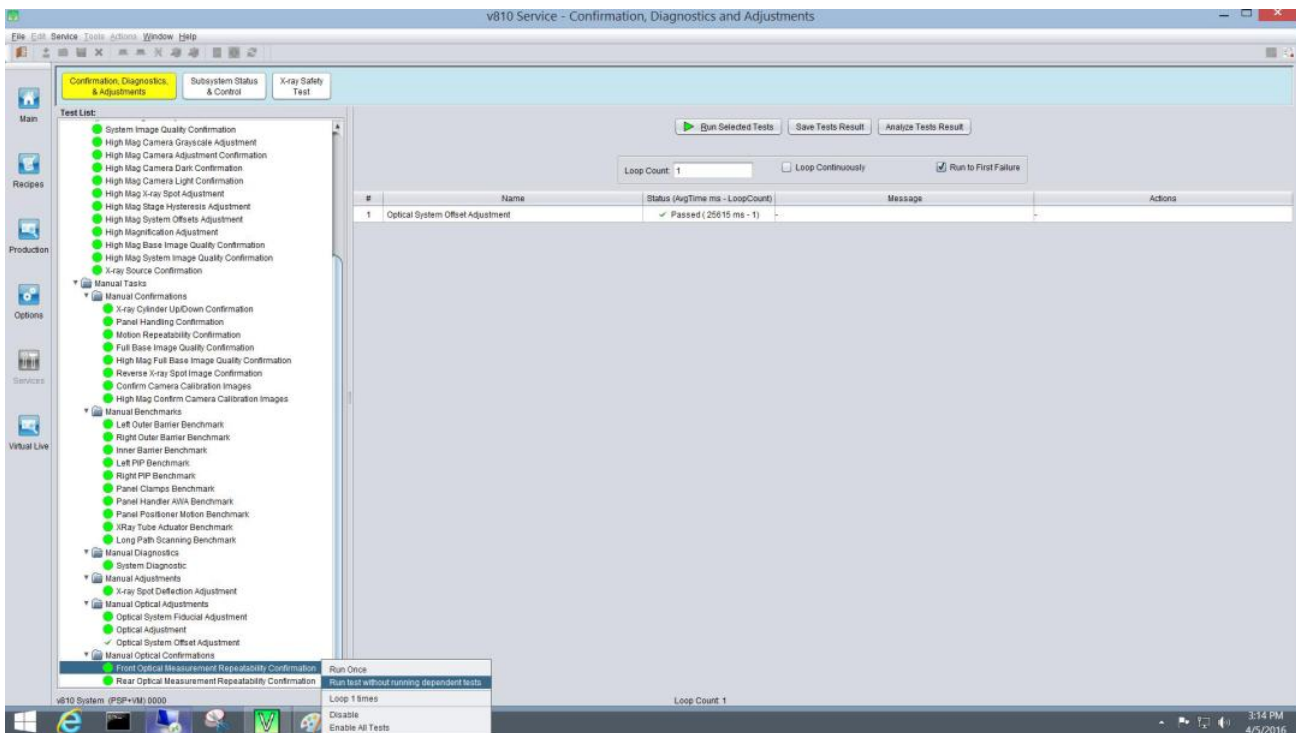

Figure 22 Optical System Offset Adjustment
19. Optical System Offset Adjustment result will be illustrated as Figure 22.